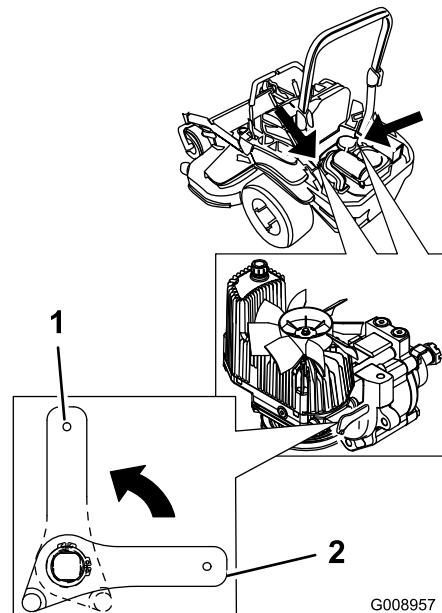

Figure 36
2. Rotate the release-valve levers vertically to push the machine (Figure 36).
4. Rotate the release-valve levers horizontally to run the machine (Figure 36).